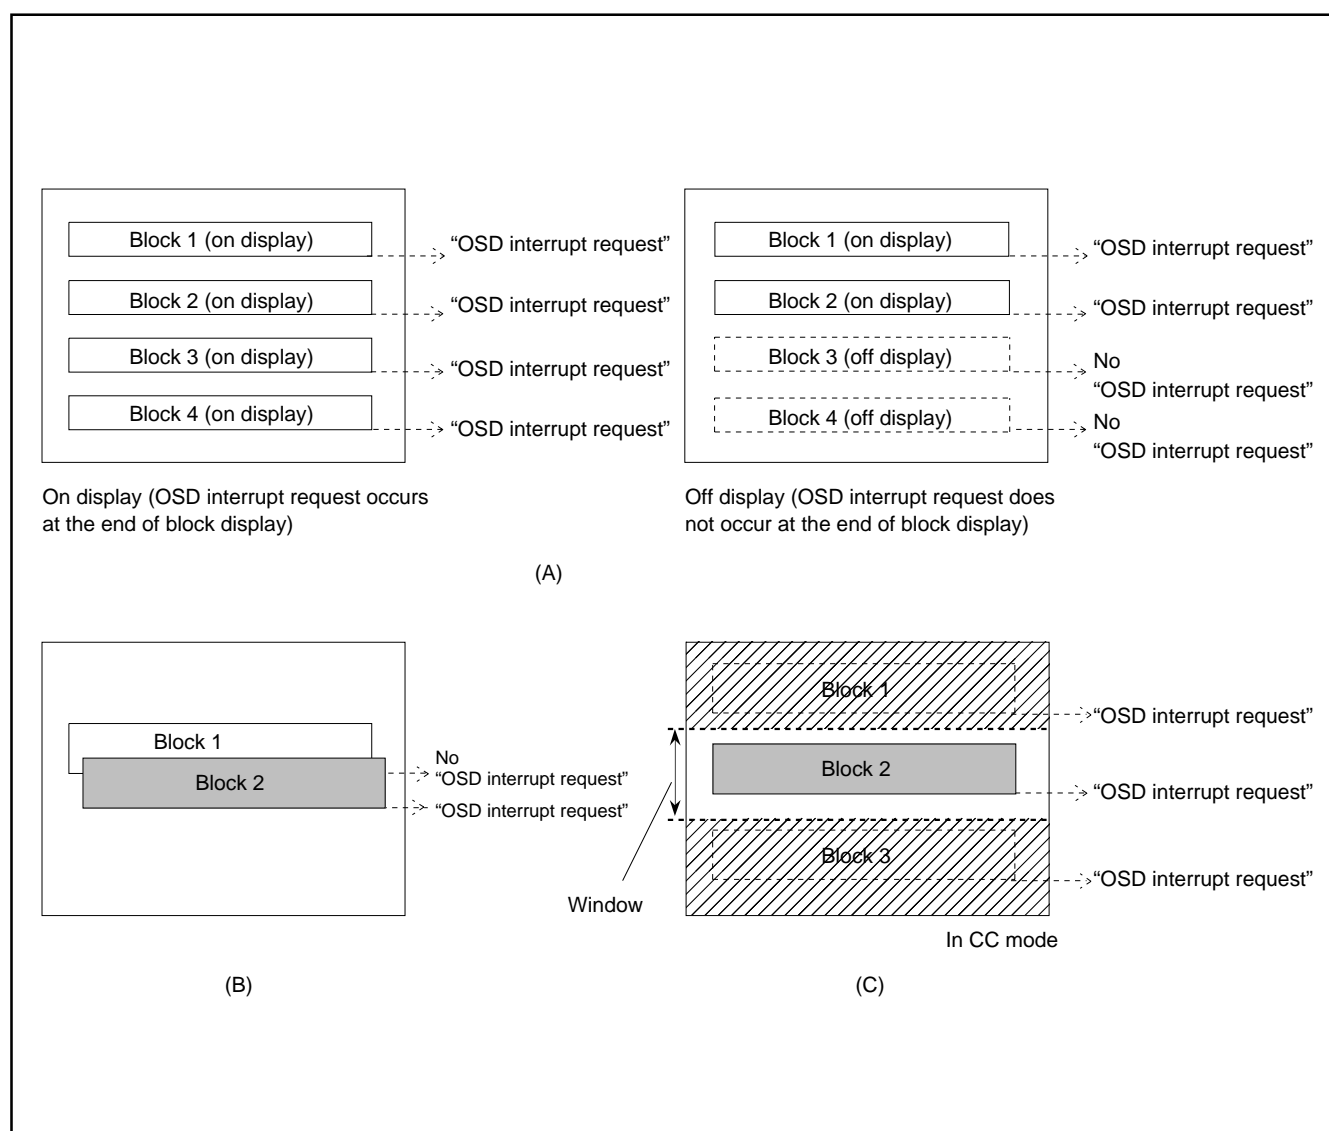

Fig. 78. Note on occurrence of OSD interrupt
Notes 1: An OSD interrupt does not occur at the end of display when the block is not displayed. In other words, if a block is set to off display by the display control bit of the block control register (addresses 00D0₁₆ to 00DF₁₆), an OSD interrupt request does not occur (refer to Figure 78 (A)).
2: When another block display appears while one block is displayed, an OSD interrupt request occurs only once at the end of the another block display (refer to Figure 78 (B)).
3: On the screen setting window, an OSD interrupt occurs even at the end of the CC mode block (off display) out of window (refer to Figure 78 (C)).